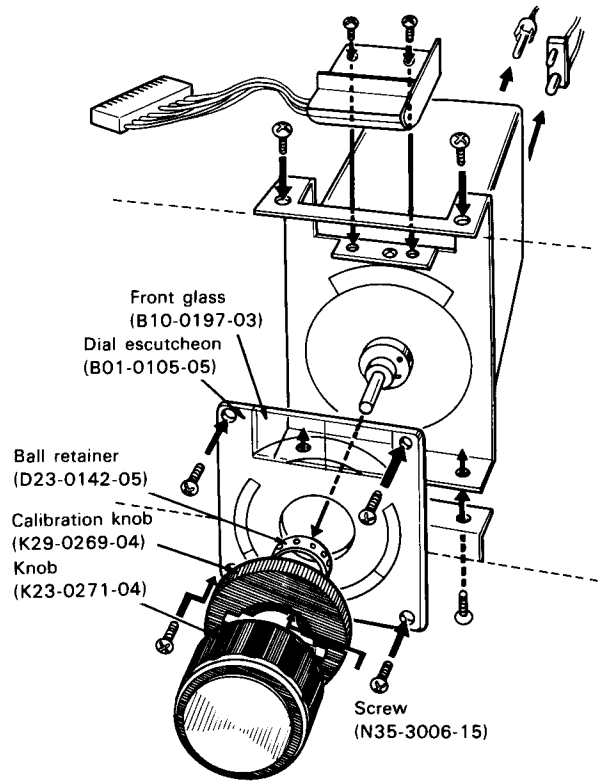

Fig. 14 Removing VFO
- 2) Remove the dial escutcheon and front glass according to **Fig. 14**.
- 3) Remove the four mounting screws from the VFO unit and subchassis of the body front according to **Fig. 14**.